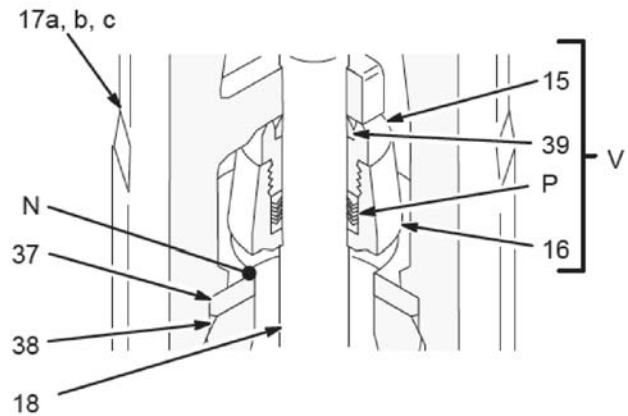
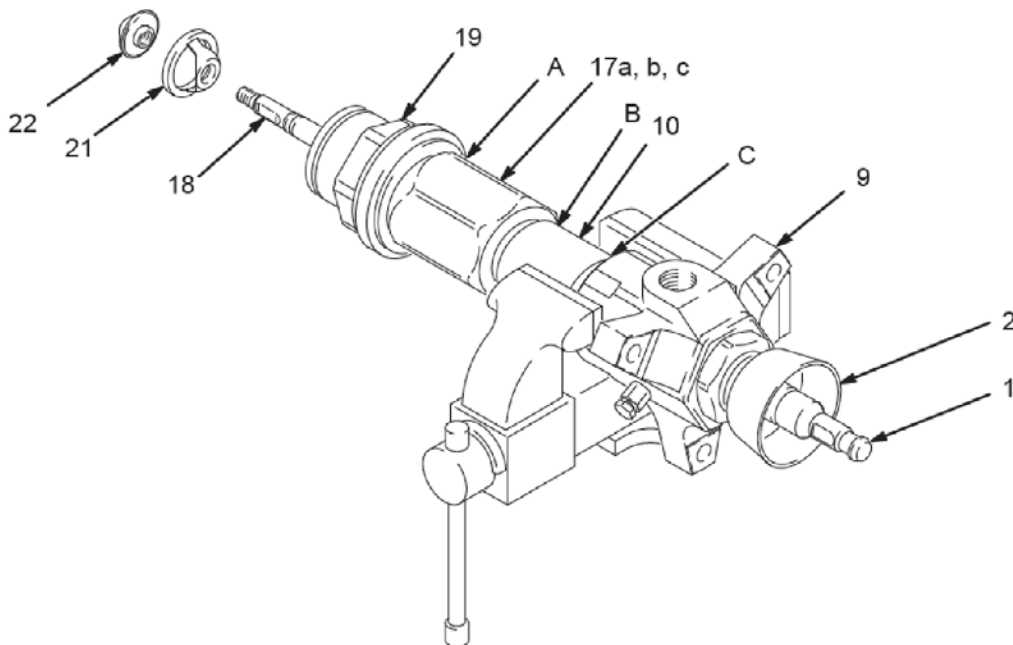
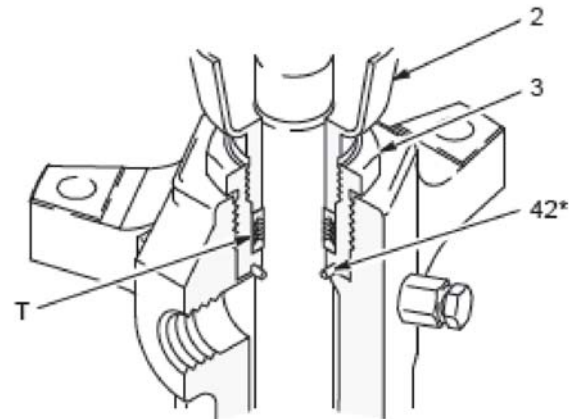

Fig. 7
Fig. 8
Fig. 10 Model 236611 Displacement Pump Shown
1. Remove the displacement pump from the motor as explained on page 18. Place the pump in a vise, with the outlet housing (9) positioned as shown in Fig. 8.
2. Hold the flats of the priming piston rod (18) with an adjustable wrench, and use a second wrench to unscrew the priming piston seat (22) from the rod. Slide the priming piston (21) off the rod. Inspect the inner and outer surfaces of the piston (21) for scoring, wear, or other damage.
3. Loosen the packing nut (2) using the wrench (109) supplied.
4. Using a pipe wrench on the hex of the intake cylinder (19), unscrew it from the intake valve housing (17). The pump may separate at joints A, B, or C. See Fig. 8.
**NOTE:** These instructions are written with the pump separating at joint A. If it separates at joints B or C, disassemble it at that joint, place the intake housing (17) in a vise, and continue with step 5.
5. Unscrew the intake valve housing (17) from the cylinder (10). Pull the housing off the pump. The intake check valve assembly (V, see Fig. 7) should slide down the priming piston rod (18) as you remove the housing; if it does not slide easily, firmly tap on the top of the housing (17) with a rubber mallet to loosen.
6. Pull the intake seat (37) and seal (38) out the bottom of the intake valve housing (17). Take care not to drop the check valve assembly (V) as it comes free, and set it aside for later. See Fig. 7.
**NOTE:** If the seat (37) is difficult to remove, insert a hammer and brass rod through the top of the housing (17) and drive the seat out.
7. Using a rubber mallet, drive the displacement rod (1) and the priming piston rod (18) out of the outlet housing (9) and cylinder (10). Inspect the outer surfaces of the rods for damage by running a finger over the surface.
8. Unscrew the packing nut (2). Unscrew the packing housing (3) and remove the seal (42). Remove the throat glands and packings (T). See Fig. 10.
13. To disassemble the intake check valve assembly (V), place the intake valve body (16) in a vise and unscrew the packing nut (15). Remove the seal (39) from the nut, and the glands and packings (P) from the valve body. Inspect the mating surfaces (N) of the intake valve body (16) and seat (37) for damage or wear. See Figs. 7 and 13.
**NOTE:** The seal (39) is press-fit in the nut (15) and may require cutting to ease removal.
14. Unscrew the bleeder valve plug (20) completely from the valve body (29). Clean the valve threads and the bleed hole. It is not necessary to remove the valve body from the pump outlet housing (9).